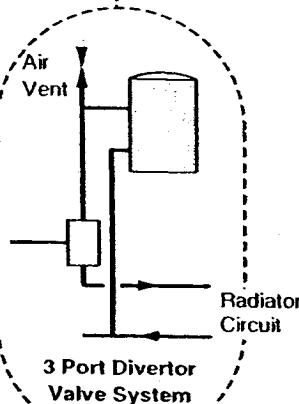

Fig. 4
- A system using a 3 port diverter valve (Fig. 4) does not normally require a bypass therefore this system is recommended. The exception to this is where thermostatic radiator valves are used and then a bypass is required.